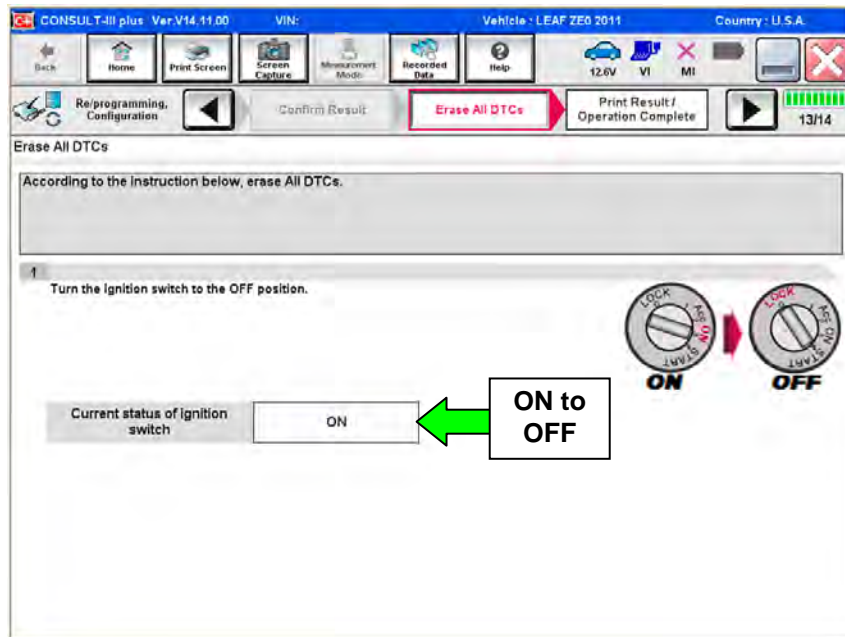

Figure 35
- The screen in Figure 35 will read **OFF** after pressing the power switch once.